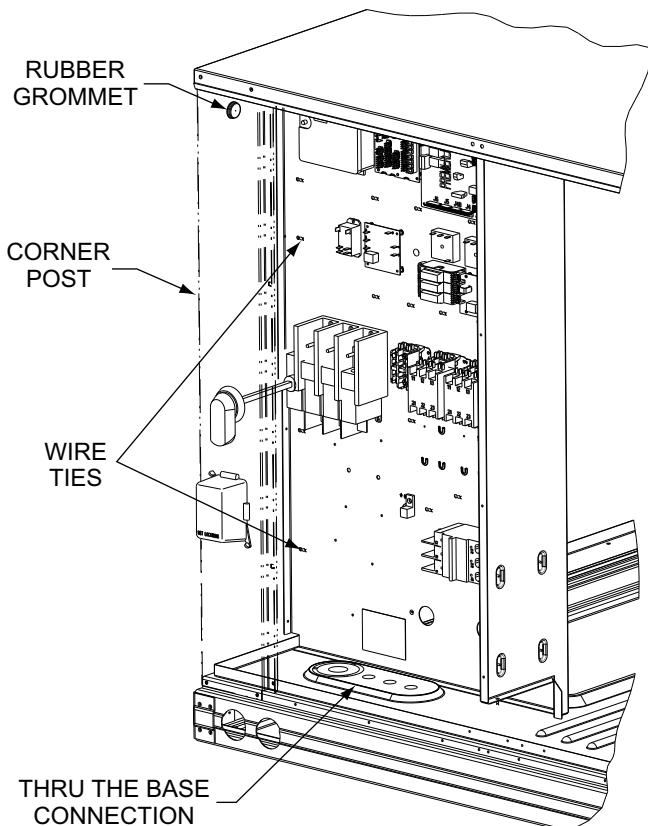

Fig. 55 — Field Control Wiring Raceway
2. Feed wires through the raceway built into the corner post (see Fig. 55) to the 24 v barrier located on the left side of the control box. The raceway provides the UL-required clearance between high-voltage and low-voltage wiring.